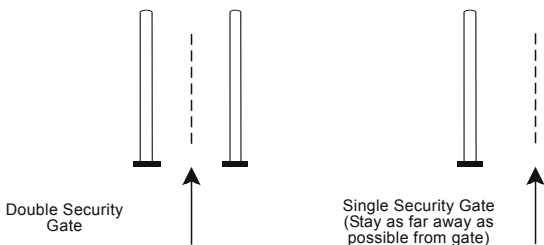

Figure 10. Approaching security gates.
2. If patients must pass through the theft detector or security screening device, they should approach the center of the device and walk through normally (Figure 10).